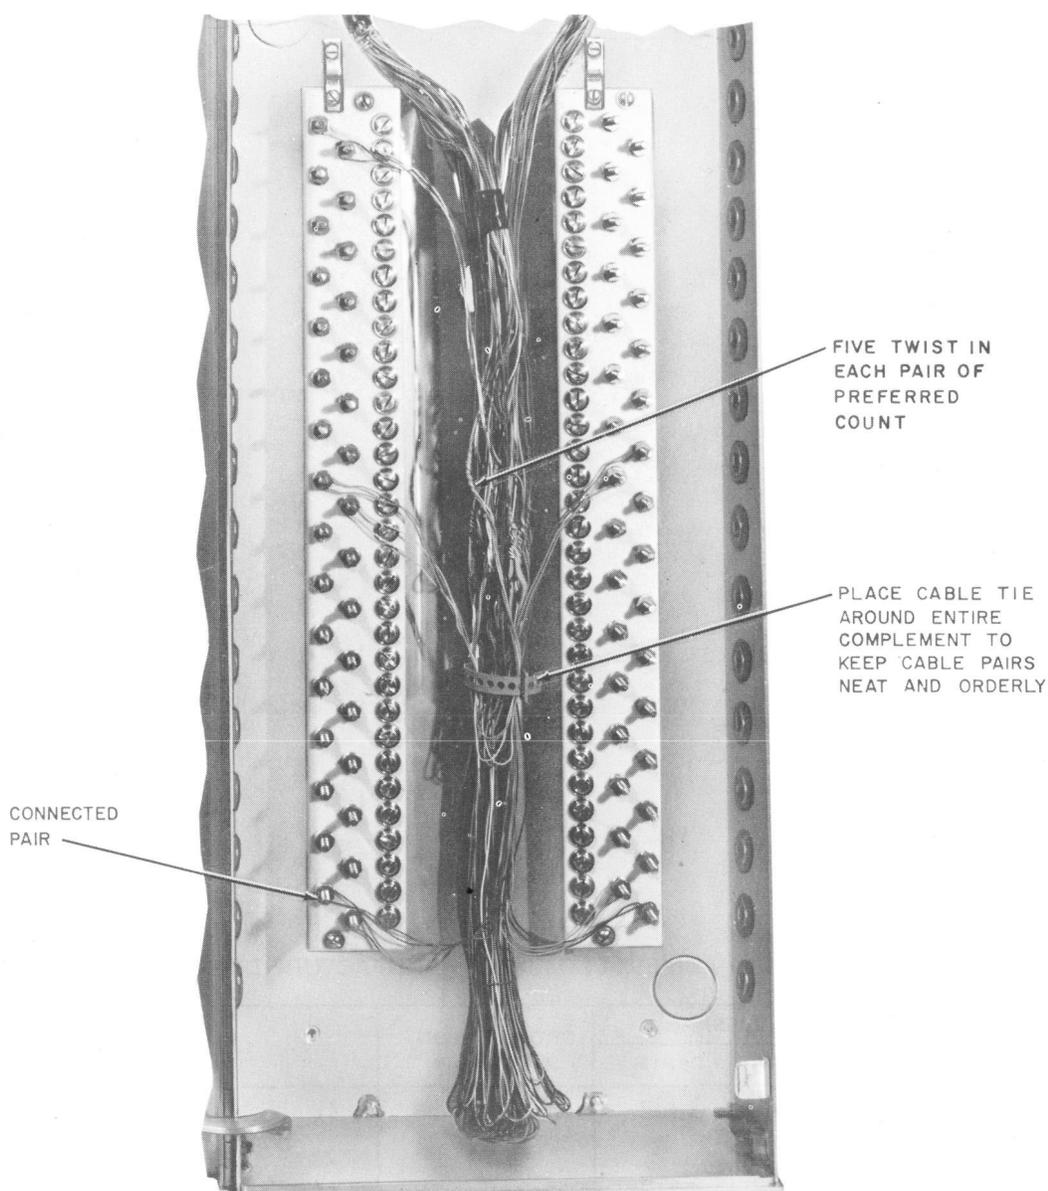

Fig. 11—Pairs Terminated on 57-Type Connecting Block
5.04 Work the pairs to be terminated (preferred count) toward the front of the closure, then apply approximately five tight twists to each pair at midpoint (Fig. 11).
- (c) Tighten nut with 216 B tool to crush the insulation on the conductor permitting an electrical connection. Figure 11 illustrates a few terminated pairs.